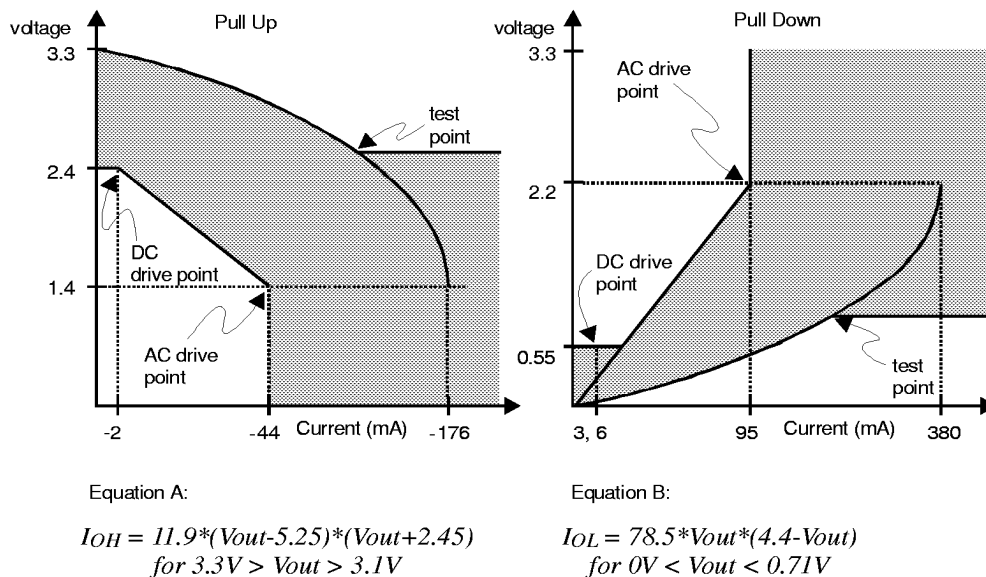

Figure 1. AC Characteristics
- Refer to V/I curves in Figure 1. Specification does not apply to PCICLK and RST# signals. Switching Current High specification does not apply to SERR#, PME#, CLKRUN#, and INTA# which are open drain outputs.